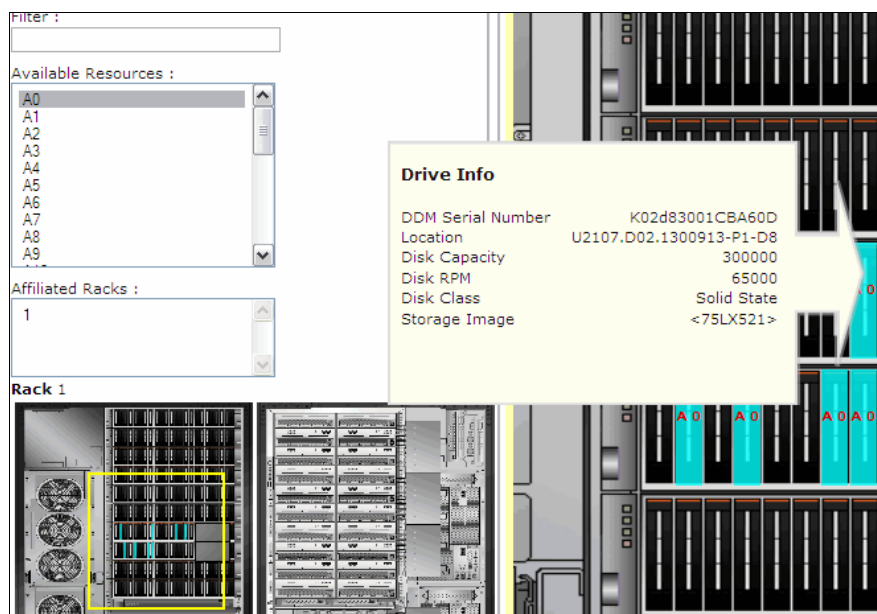

Figure 13-71 DDM information
- After you have identified the location of array DDMs, you can position the mouse pointer over the specific DDM to display more information, as shown in Figure 13-71.